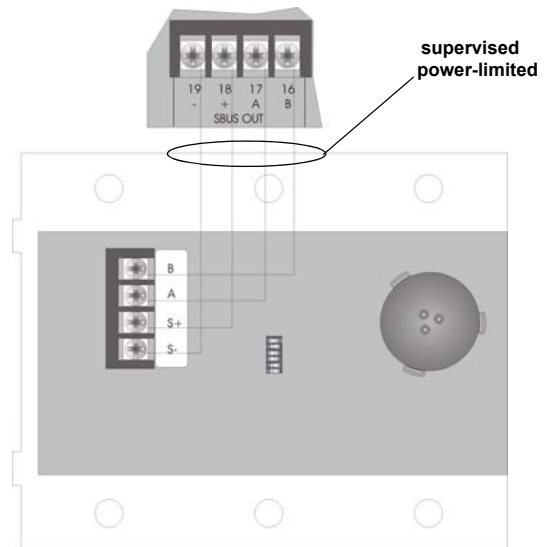

Figure 2 TR-5865-3 or TR-5865-4 Connection to the FACP
1. Make sure that the TR-5865-3 is properly wired to the control panel. See Figure 2.
Terminate the wiring as shown in Figure 2. For wiring terminal connections, refer to Table 1.